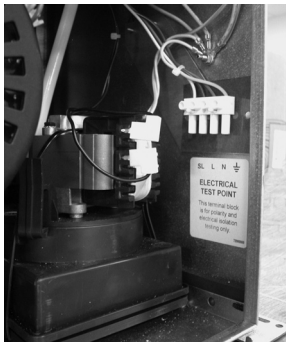
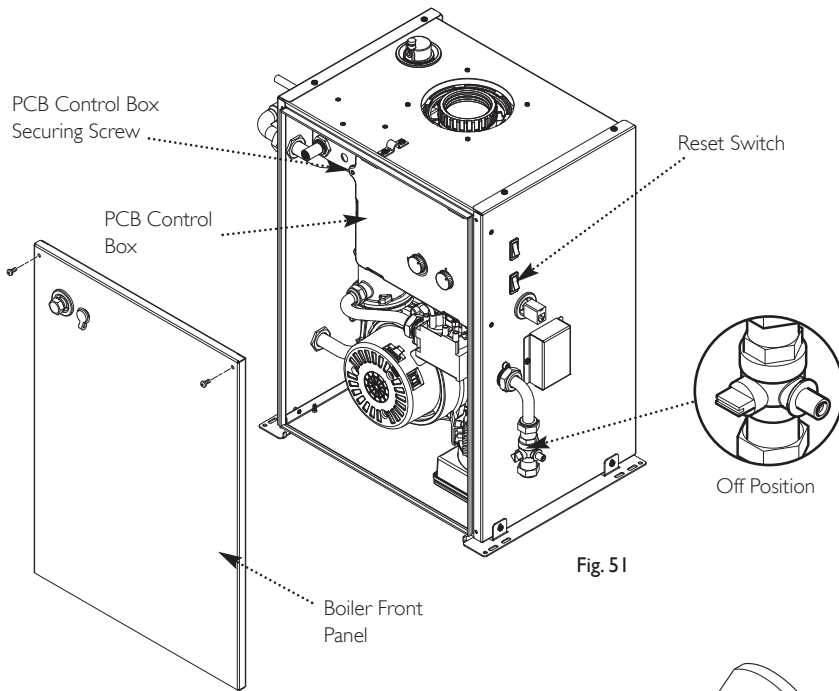

Fig. 48
Fig. 51
3. Operate the Reset switch (Fig. 51) to activate the condensate pump and then repeat. This will empty most of the condensate from the sump. **Isolate the boiler from the electrical supply** (see Electrical Test Point, Fig. 48).
4. Undo & remove the flue sampling plug and washer. Remove the screws retaining the boiler front panel, and lift the panel away (Fig. 51).
5. Remove the screw securing the PCB control box and swing the box to the right (Fig. 51).